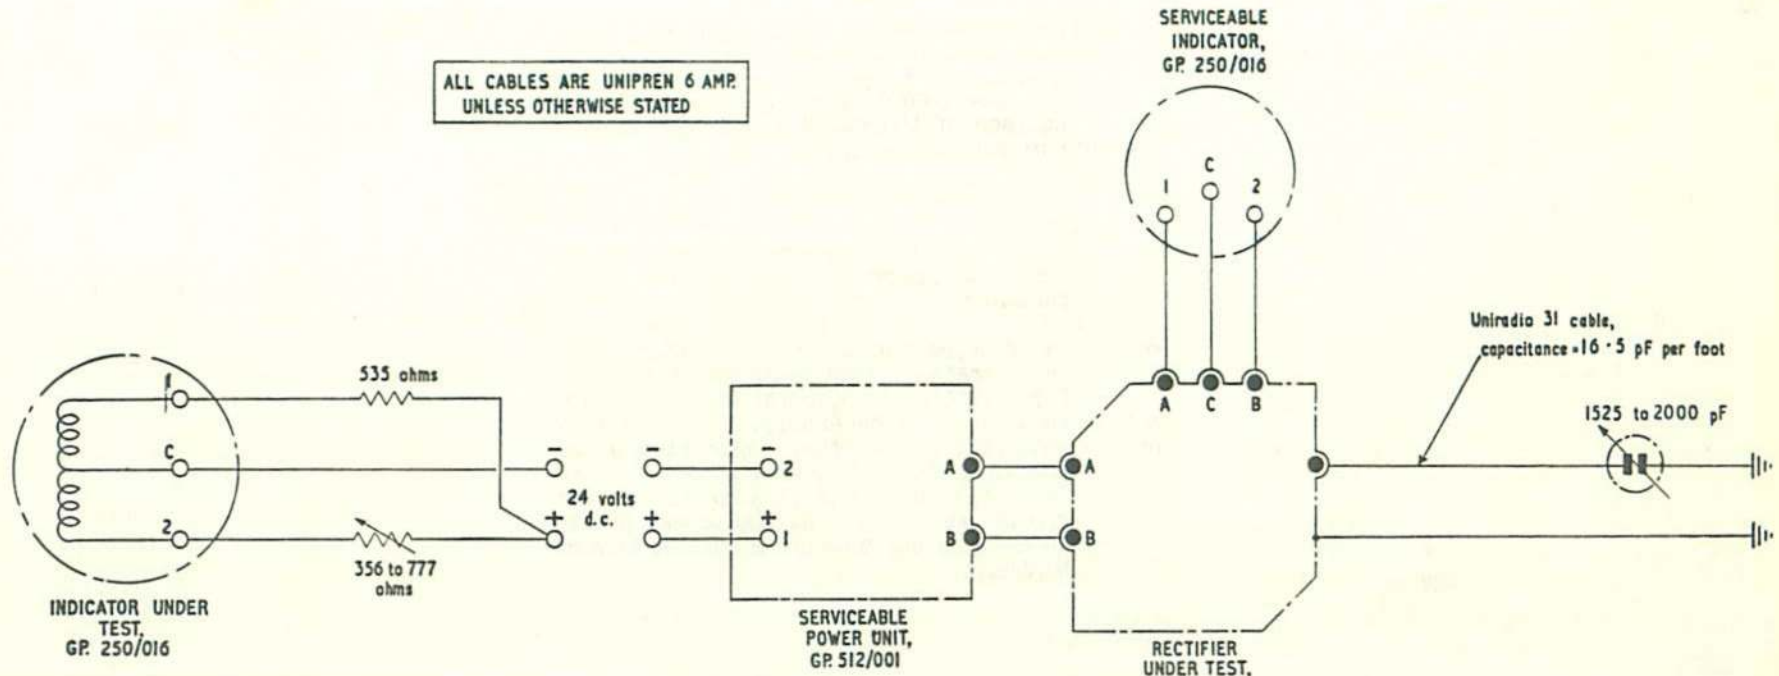

Fig. 4 Fuel contents system test circuits
(1) Indicator: Connect an external test circuit, as shown in Fig. 4, between the suspected indicator and a stable 24 volt d.c. supply. Adjust the variable resistor to the values shown in Table 3 and check that the indicator reads, over its complete range, the lb. content for the resistance value inserted. If the indicator fails this test it should be renewed.
(2) Rectifier: Connect an external test circuit, as shown in Fig. 4, to any coaxial plug of the suspected rectifier. The power unit and indicator must be of tested serviceability. Adjust the variable capacitor to the values shown in Table 3, taking into account the capacitance of the inter-connecting Uniradio